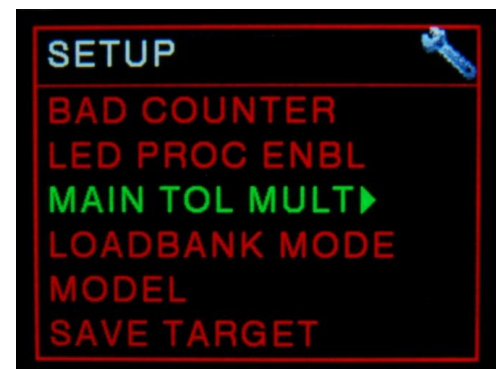

Figure 2.7 MAIN TOL MULT Screen
2. Scroll down to highlight **MAIN TOL MULT** (Figure 2.7). Press the knob once to select the mode.